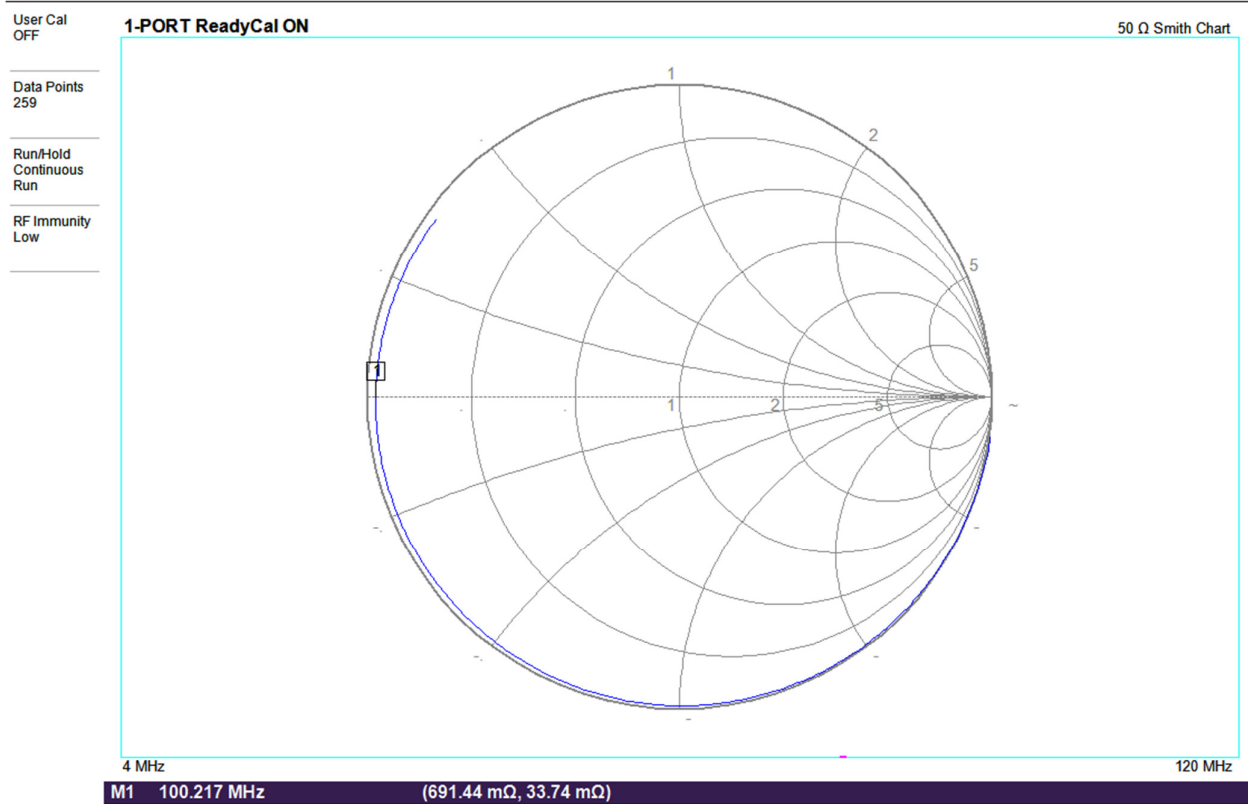
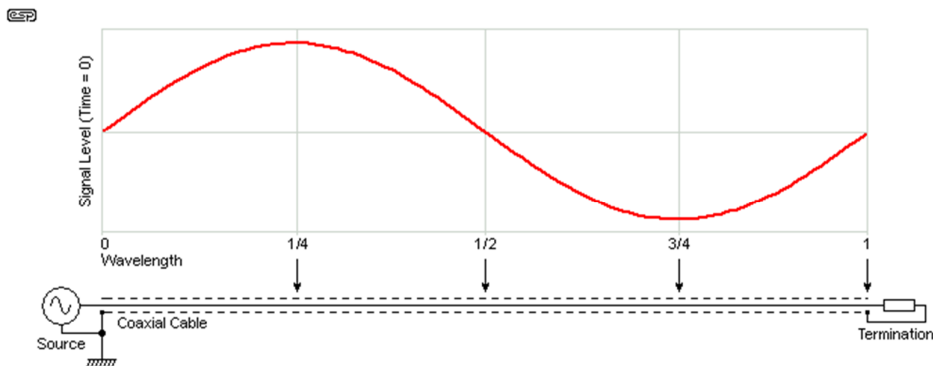

Figure 2: Anritsu S331P Smith Chart Sweep
Figure 3: Voltage distribution with respect to phase.
- Figure 2 - M1 is at 100.217 MHz as that is the SC frequency point for an open ended stub which will be infinity impedance.
- With reference to Figure 2, that is pretty much what we expected as the physical measurement will produce some errors.
What should be pointed out is that the voltage distribution over a wavelength (Figure 3) is as displayed below. At 0° the voltage is at zero and at 90° it is at a maximum which indicates an OC. However the net effect of an open ended $\frac{1}{4}$ wave stub is that at a certain frequency it produces a short circuit as that is displayed at Marker 1 in Figure 2.